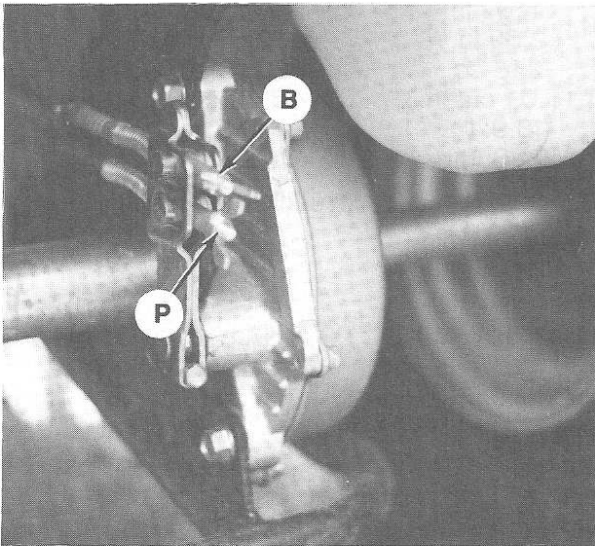
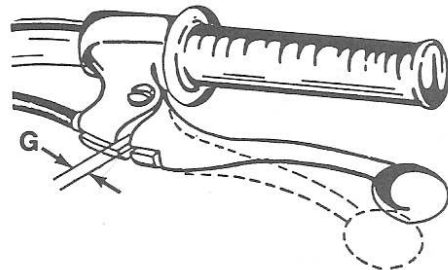

Fig. K4-24—View showing location of rear brake adjusters for brake pedal (P) and handlebar lever (B).
Fig. K4-25—Brake lever free play (G) should be 4-5 mm (0.16-0.20 in.).
**ADJUSTMENT.** The rear brake can be actuated either by a foot pedal or handlebar lever. Brake pedal free play should be 20-30 mm (0.787-1.181 in.) measured at the pedal pad. Adjust pedal free play by turning adjusting nut (P—Fig. K4-24). Brake lever free play measured at gap (G—Fig. K4-25) should be 4-5 mm (0.16-0.20 in.). Brake lever free play can be adjusted by rotating adjuster nut on brake cable at handlebar brake lever, or can be adjusted by turning adjusting nut (B—Fig. K4-24) if beyond handlebar brake lever adjustment.